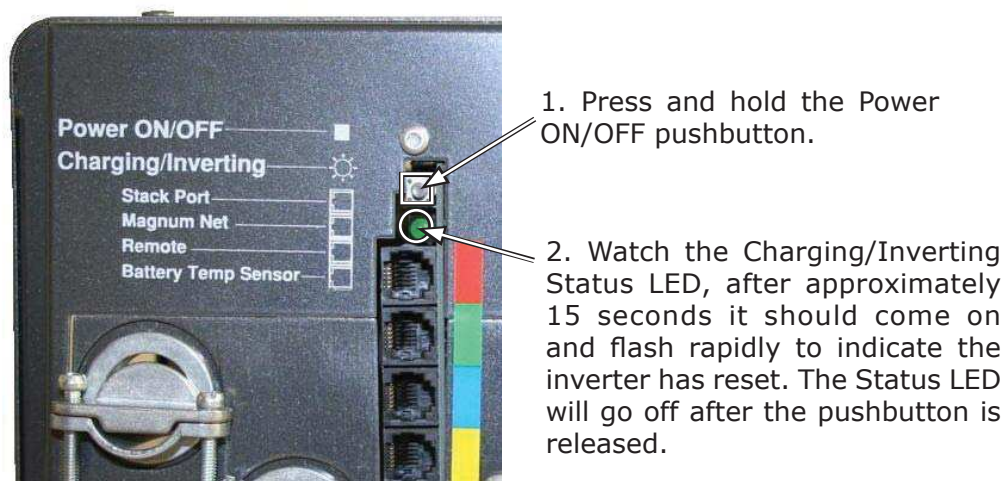

Figure 4-1, Performing an Inverter Reset
Certain faults require the inverter to be reset. To perform an inverter reset (also known as a soft reset), press and hold the Power ON/OFF button (see Figure 4-1) for approximately fifteen (15) seconds until the Charging/Inverting Status LED comes on and flashes rapidly. Once the rapid flashing has begun, release the Power ON/OFF button. The Status LED will go off after the button is released.